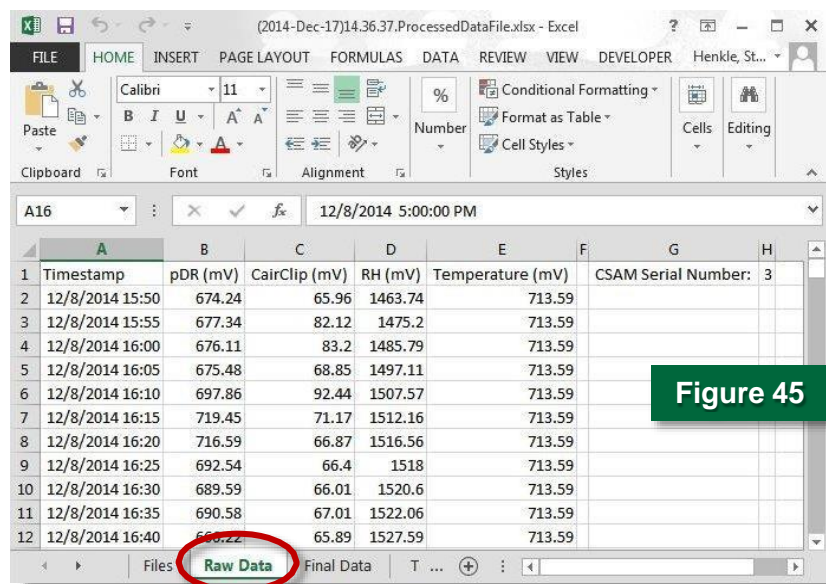

Figure 45
- ❖ The **Raw Data** tab (Figure 45) shows the data recorded by the CSAM in its originally collected format using the CSAM's programmed voltage values (mV).